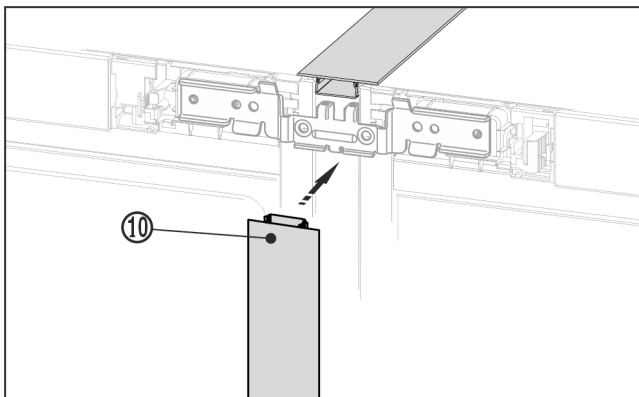

Fig. 26
- ▶ On the front, press the long cover strip Fig. 26 (10) into the vertical gap. Ensure that the strip rests on the connecting plate.